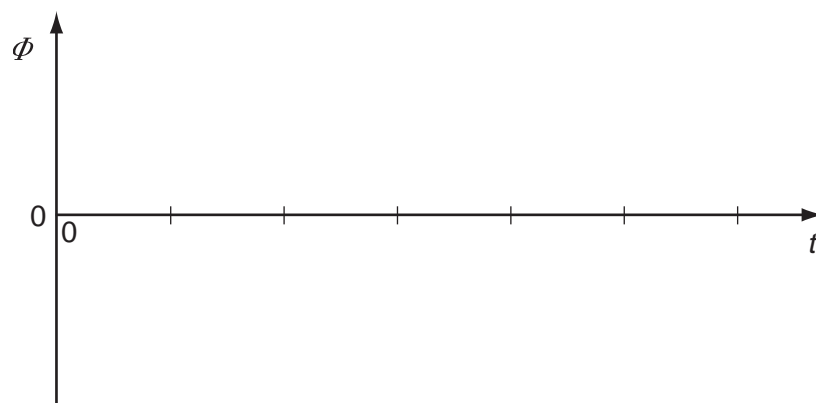

Fig. 6.3
- (i) Complete Fig. 6.3 to show the variation with time t of the magnetic flux Φ in the core. [1]